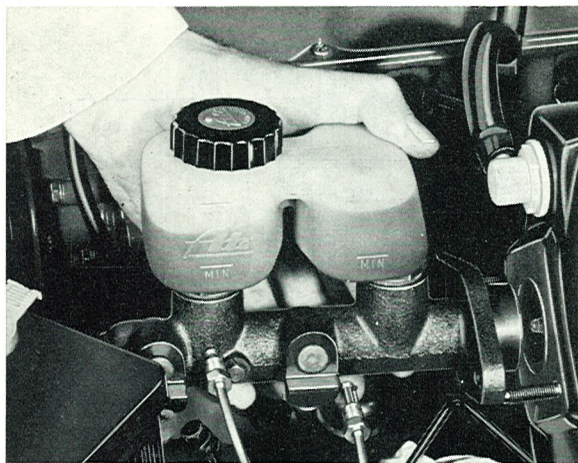

Fig. 5-43. Removing the master cylinder
3. Remove the two attaching nuts for the master cylinder and lift the cylinder forwards, see Fig. 5-43. Empty out the brake fluid.